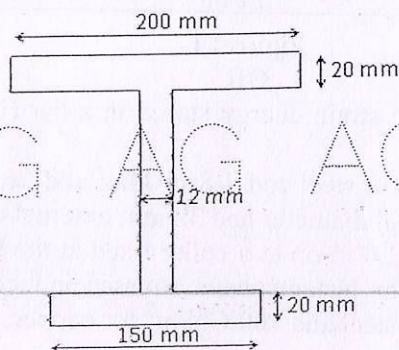

Figure: 5
7. A steel beam of total depth 300 mm has a cross-section as shown in Figure 5; is subjected to a shear force of 300 kN. Draw the shear stress distribution across the depth of the section. Also determine ratio of maximum shear stress to the mean shear stress. [10]